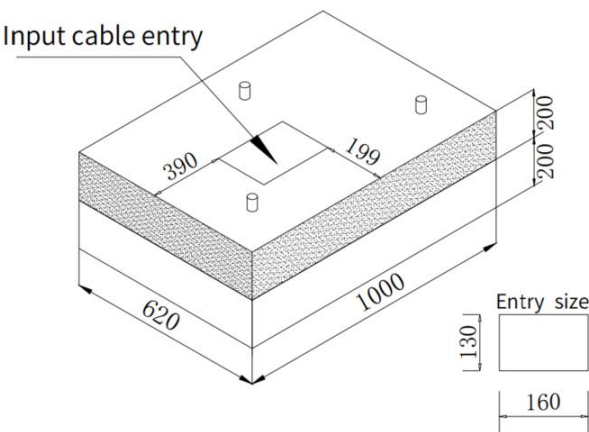

Fig. 5-2 Concrete foundation construction diagram
- Before the equipment is installed, the cement foundation should be reinforced according to the structural size provided by the manufacturer. The strength of anti-corrosion concrete for charging station foundation should not be lower than C25, the foundation should be 200mm above the ground, and the underground depth should be 200mm as shown is Fig. 5-2. Do not install directly on the ground without a foundation, otherwise there is a risk of toppling or internal water immersion. It is recommended to set up a drainage ditch nearby to prevent water accumulation.